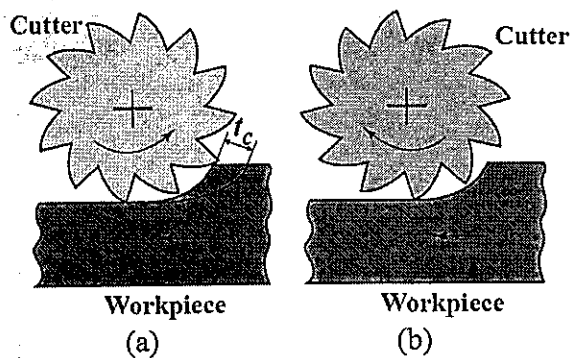

Figure 3
- (a) What are the names of the machining processes shown in Figure 3(a) and Figure 3(b)? Which of the two machining processes is more commonly used? Why?